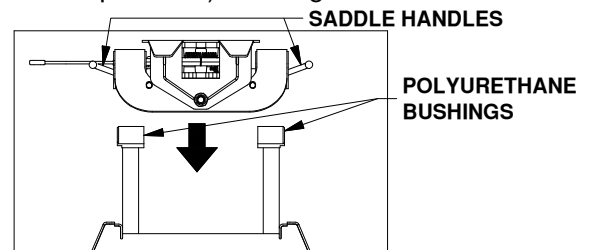

Figure E1: View of coupler and base. (Saddle handles up) PAGE 3 of 4
- Place coupler.** Lubricate the polyurethane bushings on top of the pivot arms with high grade lithium grease (available at your local hardware/automotive store). Pick up the coupler by lifting up on both saddle handles which will open the saddle latches. Place the coupler over the pivot arms and allow the saddle latches to fall back to their original positions. (The saddle handles should be parallel with the base in the latched position.) See Figure E1.